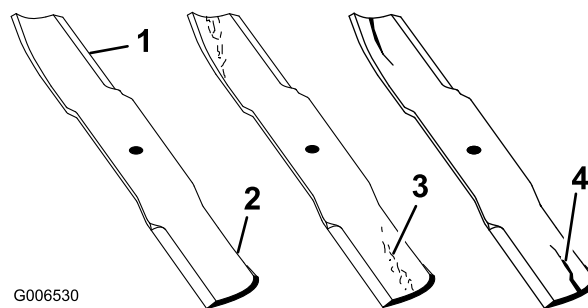

Figure 42
1. Inspect the cutting edges (Figure 42). If the edges are not sharp or have nicks, remove and sharpen the blades; refer to Sharpening the Blades.
2. Inspect the blades, especially the curved area (Figure 42). If you notice any damage, wear, or a slot forming in this area (item 3 in Figure 42), immediately install a new blade.